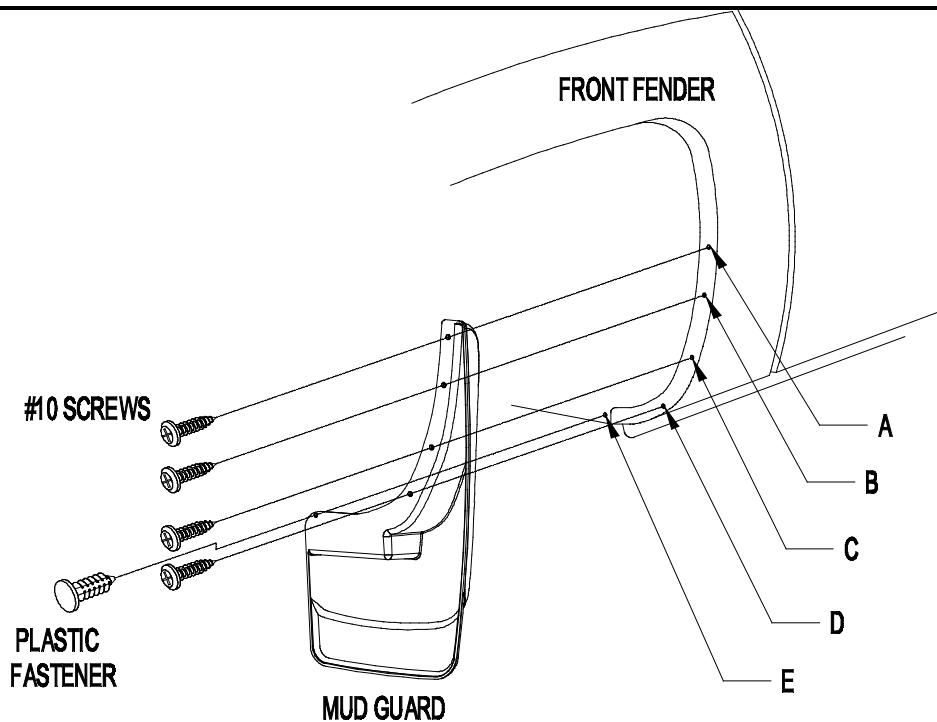

Figure 1
2. Using the mud guard as a template, position and mark hole location B with a marking utensil. Make sure the mud guard fits flush against the front fender and is parallel to the ground (figure 1).